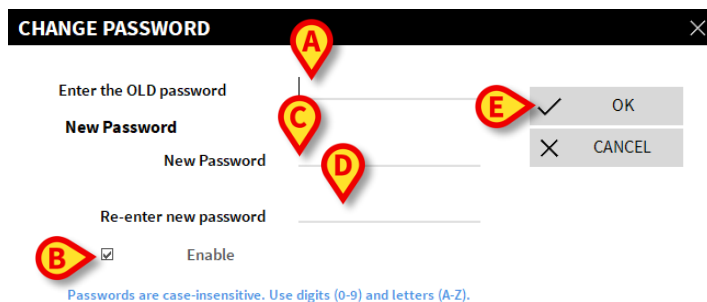

Fig 37
- Type the current password in the “**Enter the OLD password**” field (Fig 37 A)
- Verify that the “**Enable password**” checkbox (Fig 37 B) is selected
- Type the new password in the field indicated in Fig 37 C
- Type again the new password in the field “**Re-enter new password**” (Fig 37 D)
- Click the **Ok** button (Fig 37 E)